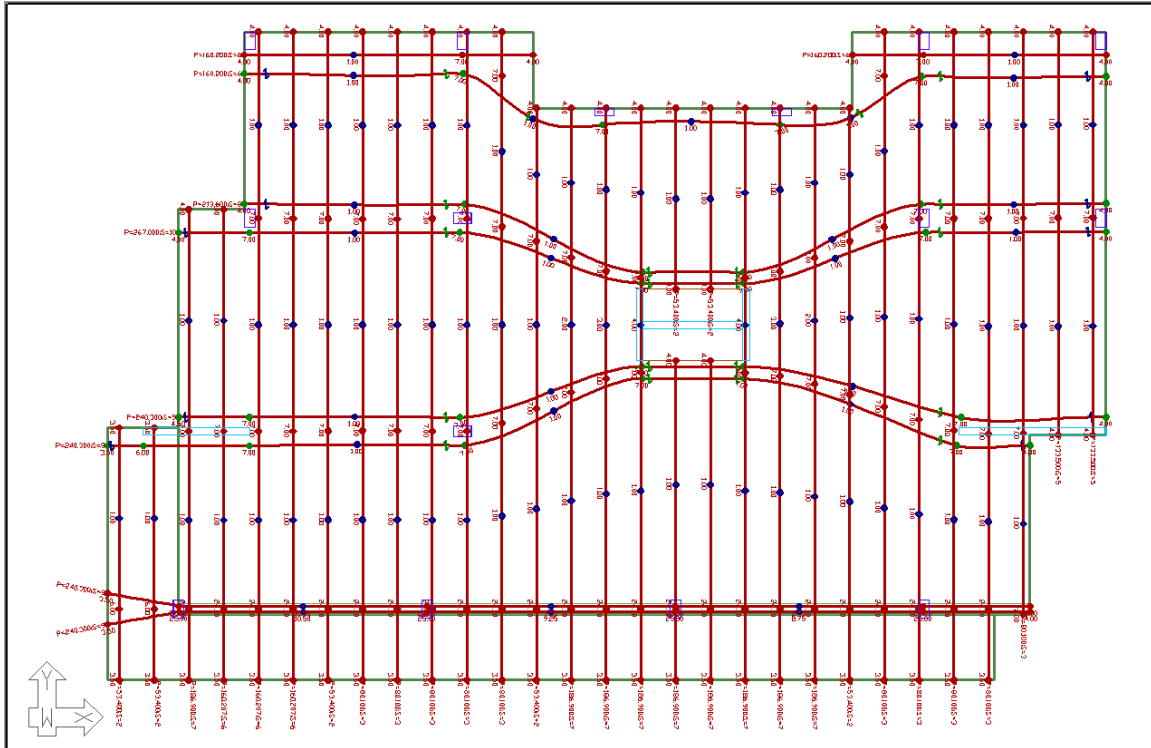

FIGURE 9-135
- Make the selections as shown in **FIGURE 9-134**. Your screen will appear as shown in **FIGURE 9-135**.